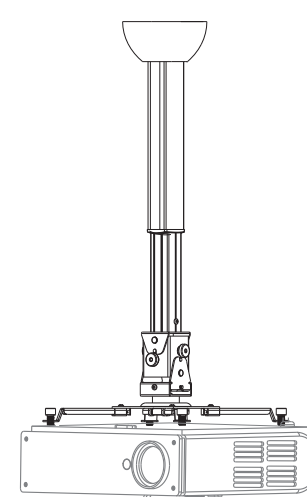
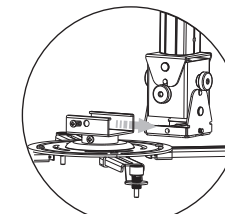

figure 5
figure 6
- 2 Connect the adjuster to GPCN Main Bar Overview, and then fasten the screws (accessory ②) as figure 5. Afterward, slide the Adjustment Overview (projector has been installed) to adjuster, and the fasten the screws (accessory ③) as figure 6.